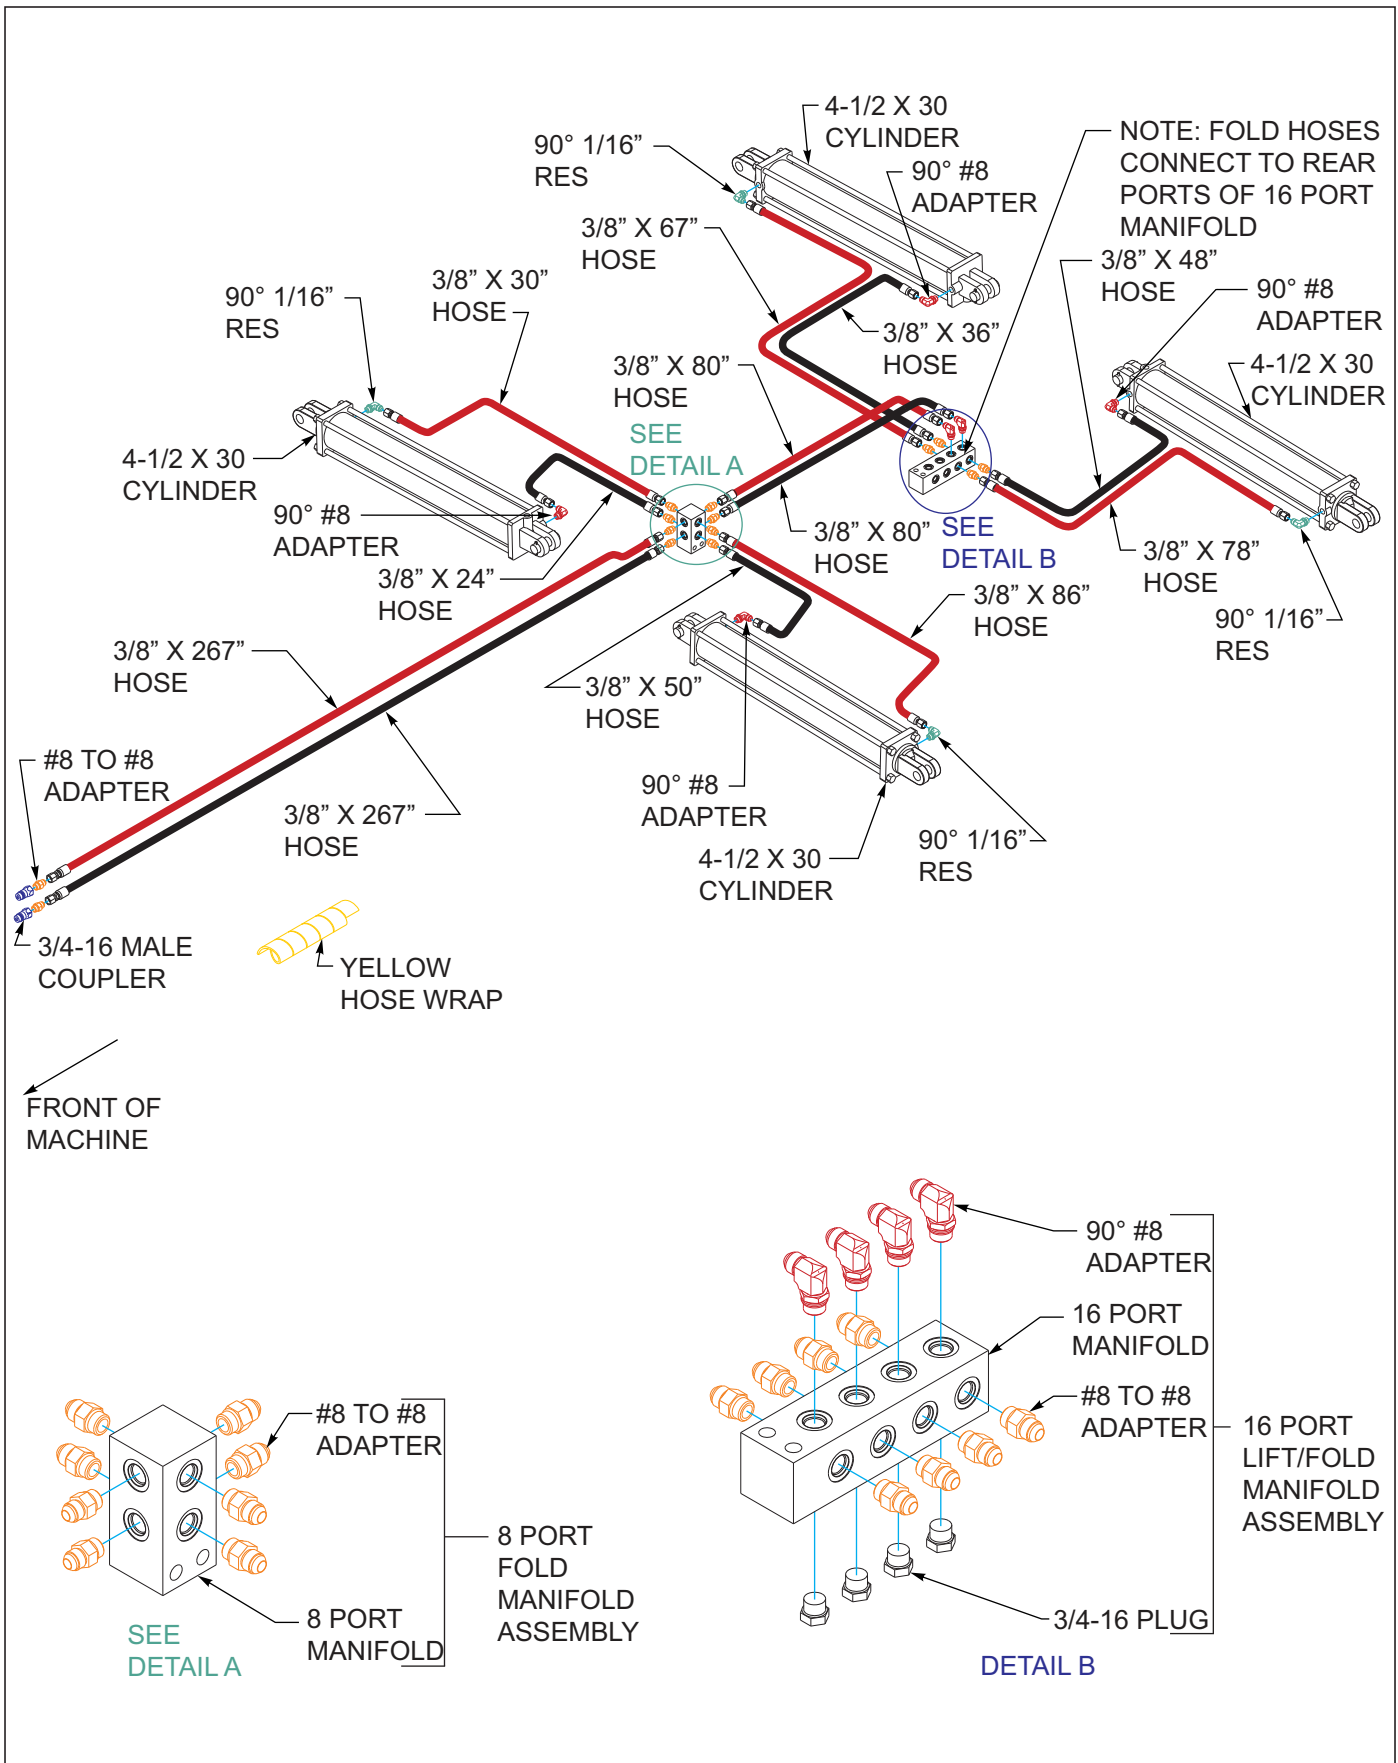

Figure 3-13: Hydraulic Fold Installation 9630FH
Restrictors are installed in the rod end of wing fold cylinders to prevent uncontrolled dropping of wings. Removal of these restrictors, or improper installation can result in serious damage to the implement. See Figures 3-13 for proper restrictor fitting identification and location.
8. Install fold system hoses per **Figure 3-13**. Wrap fold system hoses with yellow hose wrap.